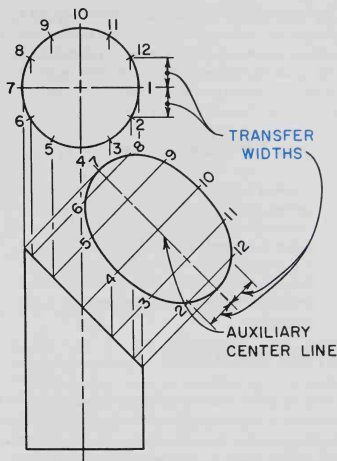

Fig. 11-10. Development of auxiliary surface.
- the inclined surface, Fig. 11-10.